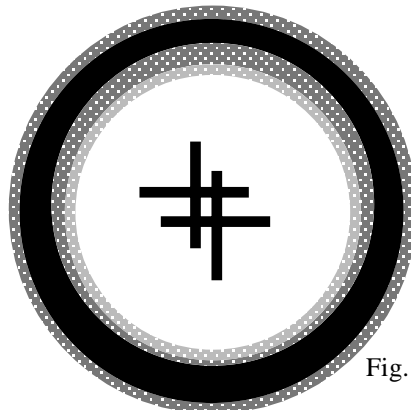

Fig. 2
If this cross on the table is now viewed simultaneously with both eyes (=binocular), in certain circumstances the small object may appear as a double image (Fig. 2). By rotating one or if necessary both telescopes, the double image can be made to coincide. (Fig. 3).
- If a double image (Fig. 2) appears, the two visible crosses are made to coincide by turning one or if necessary both telescopes (Fig. 3).